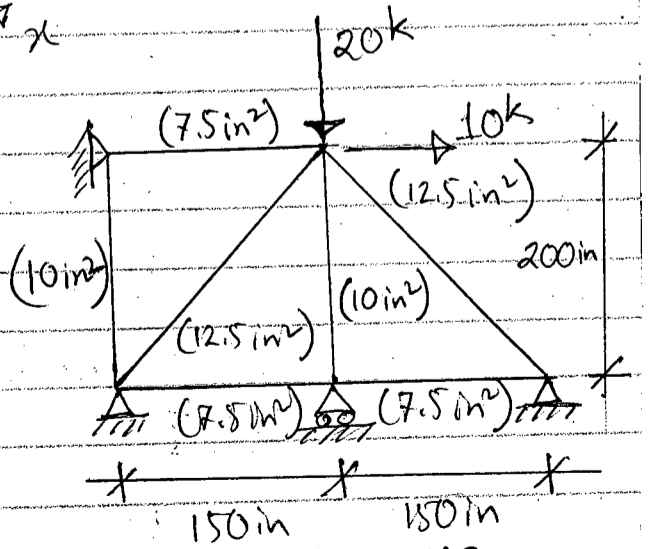

Fig. 12
7. (a) Write down the Stiffness equations in matrix form for the truss shown in Fig. 12. Given: $E = 30,000 \text{ ksi}$. (21 2/3)